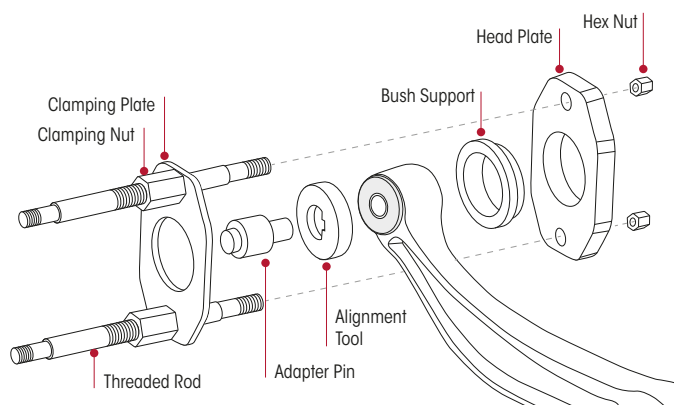

Figure 80: Assemble Clamping Plate
2. Insert the adapter pin through the alignment tool and into the pivot bush hole as shown in Figure 80.